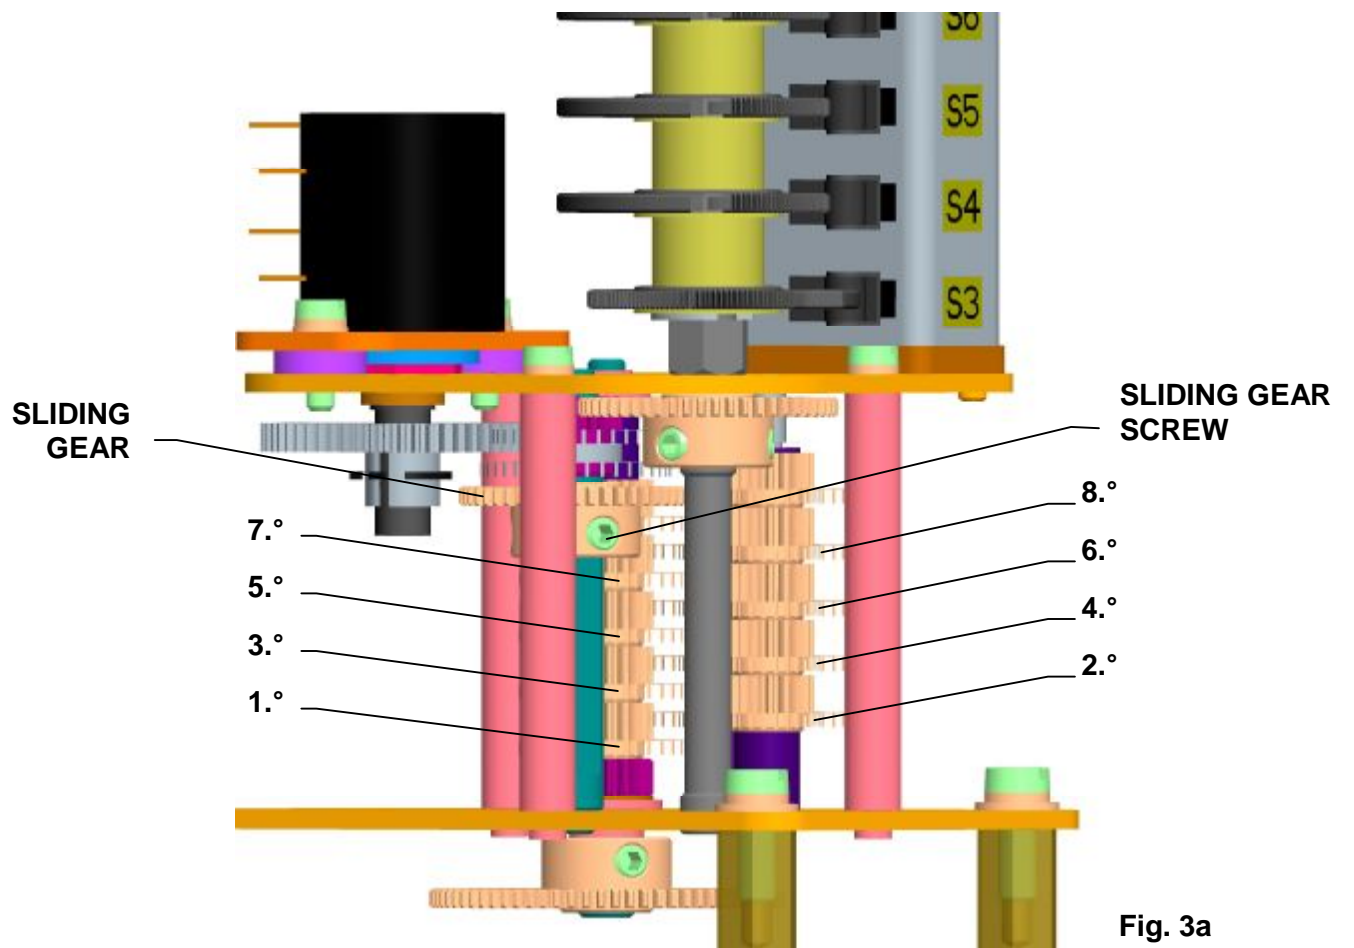

Fig. 3a
- shift the sliding gear to the required speed as per Table 2, Fig. 3a by loosening the screw of the sliding gear and tighten it once resetting is over. When setting the sliding gear be particular about correct meshing with the given speed gear;
- loosen the nut (22) with simultaneous holding the central milled nut (23) and then loosen the nut (23) fixing the cams still having the Belleville springs which create axial thrust;
- reset the EA to the "Open" position and rotate the cam (29) clockwise (when viewing the actuating plate from above) until switch S3 switches over (25);
- reset the EA by the stroke where the "Open" position is to be indicated and turn the cam (31) clock-wise until switch S3 switches over (27);
- reset the EA to the "Closed" position and turn the cam (28) counter clockwise until switch S4 switches over (24);
- reset the EA back by the stroke where the “Closed” position is to be indicated and turn the cam (30) counter clockwise until switch S6 switches over (26);
- once the EA is adjusted manually tighten the central milled nut (23) to lock the cams and tighten the lock nut (22) while simultaneous holding the milled nut;
- swing the position indicator discs (31) for the given number of revolutions against the gauge mark on the top cover sight;